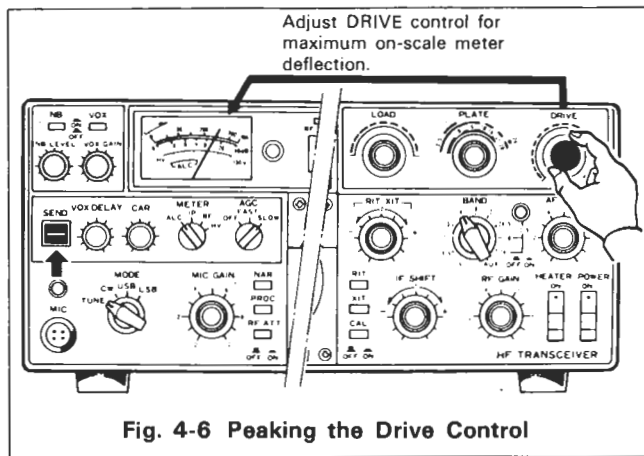

Fig. 4-6 Peaking the Drive Control
- \* 5. Place **MODE** switch to **TUNE**, **METER** switch to **ALC**. Peak the **DRIVE** control. If the meter pegs or goes out of the ALC range, reduce the **CARRIER** control setting for an on-scale reading. (the **CAR** control is a level adjustment, while the drive control is a resonating adjustment.) Fig. 4-6